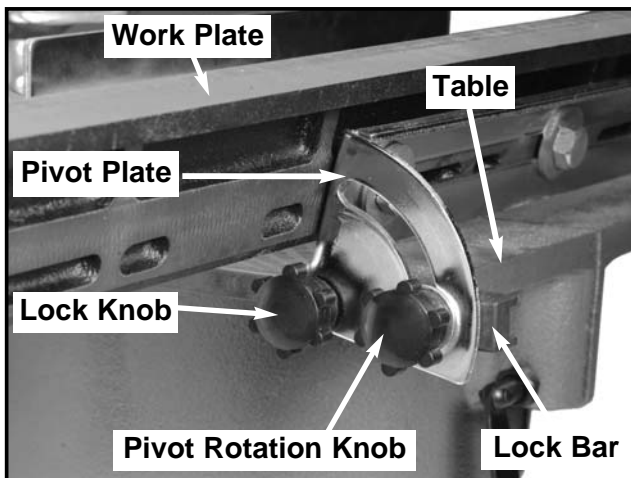

Figure 2. Location of plate system components.
2. Attach the lock bars to the pivot plate with the lock knobs provided. **See Figure 2.**
4. Mount the pivot plate assembly to the back of the work plate using the three (3) $\frac{5}{16}$ " - 18 x $\frac{1}{2}$ " hex bolts provided.
5. Turn the work plate assembly right-side-up and slide the lock bars over the sides of the grinder table as shown in **Figure 2**. It may be necessary to loosen the lock knobs part way to allow alignment of the bars to the table.